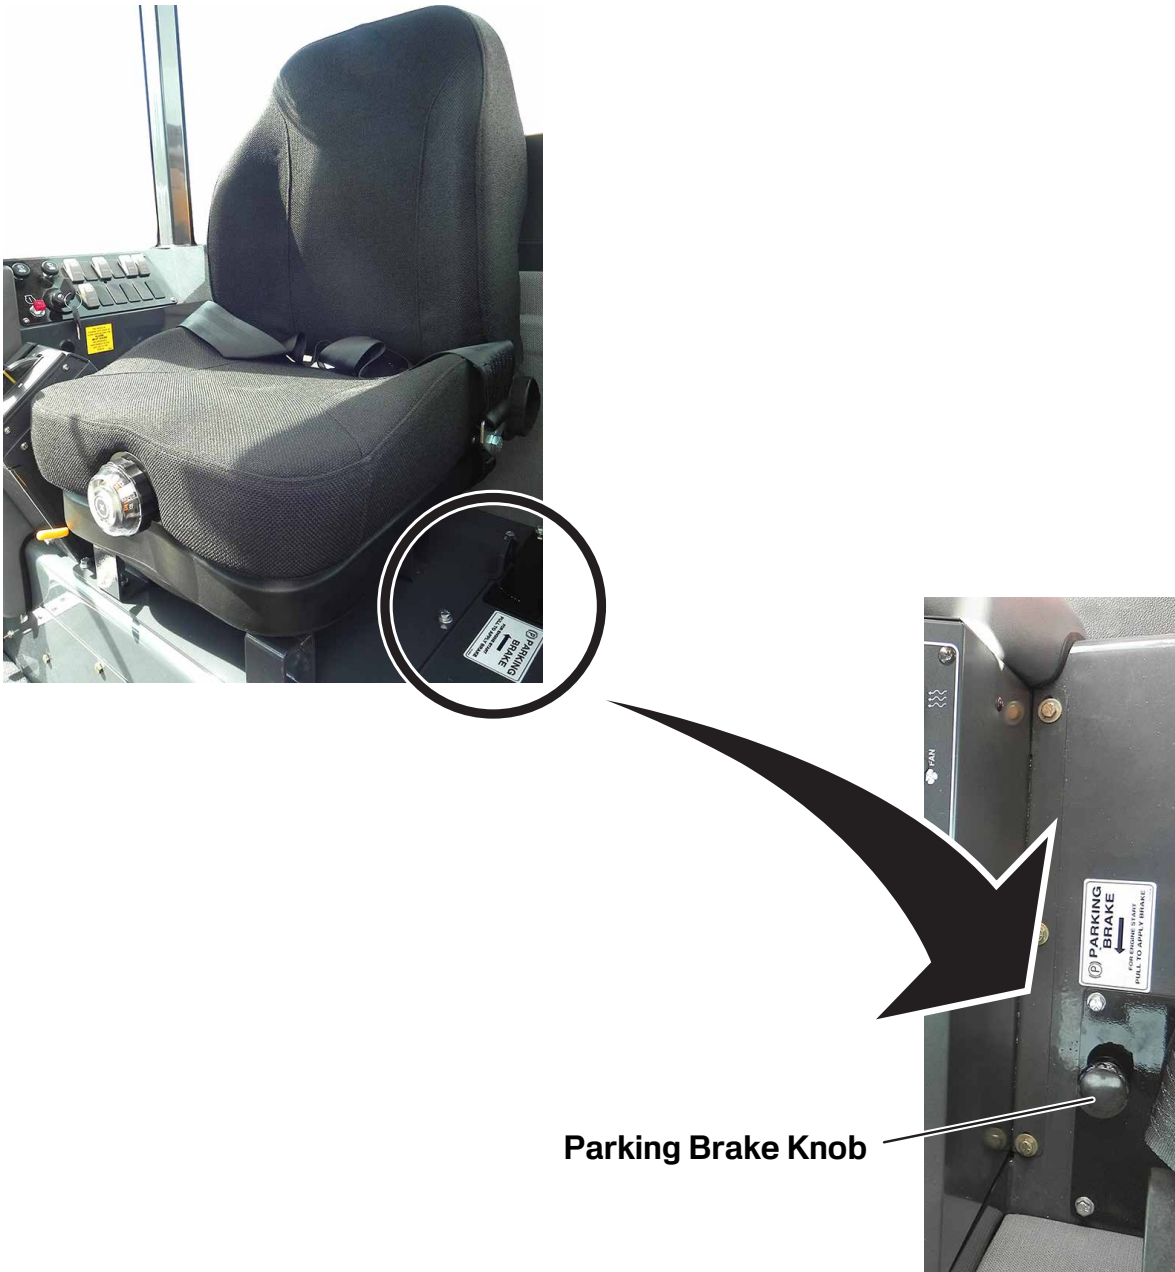

Figure 3-8. Parking Brake
- ALWAYS engage parking brake when parking or leaving the grader unattended. (Pull the parking brake knob (**Figure 3-8**) to apply parking brake).